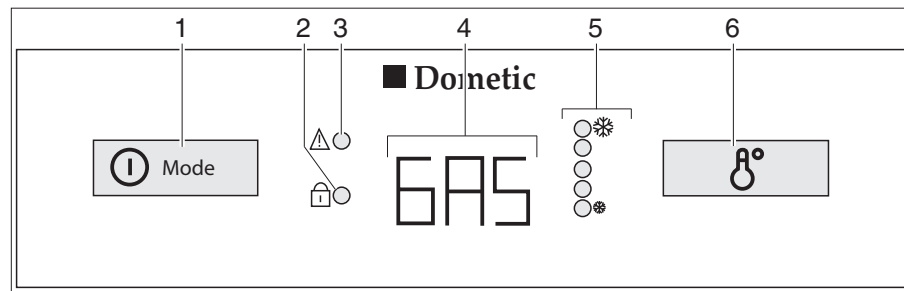

Fig. 320 Operating controls for the refrigerator (Dometic 8 series with AES)
In the case of a fault, the LED display fault will flash "⚠" (Fig. 320,3).
If the 240 V power supply is **not** connected and the vehicle's engine is **not running** the AES selects the gas supply. When selecting gas operation the ignition fuse is opened automatically so gas can get into the burner. At the same time the electronic ignition is activated. If the gas flame is extinguished, e.g. by blast of wind, the ignition is activated immediately and re-ignites the gas. In the case of a fault in gas operation the text "GAS" flashes in the operating indicator (Fig. 320,4).
When turned on the first time the refrigerator automatically selects the middle thermostat position. This position can be adjusted manually by using the switch for temperature setting (Fig. 320,6). The indicator LEDs (Fig. 320,5) show the selected thermostat position. The refrigerating temperature for the three types of energy is set with the switch. It takes a few hours till the refrigerator reaches its normal operating temperature. When changing over the operating mode the thermostat setting will be maintained. The refrigerating temperature is retained regardless of the type of power being used.
- Press the on/off switch/energy selector switch (Fig. 320,1) down for 2 seconds in order to switch on the appliance. The operating mode selected most recently is shown in the operating indicator (Fig. 320,4).
- Select the energy type with the on/off switch/energy selector switch (Fig. 320,1).
- Set the refrigerating temperature on the switch for temperature setting (Fig. 320,6). The indicator LEDs (Fig. 320,5) show the selected thermostat position.
- Press down the on/off switch/energy selector switch (Fig. 320,1) for 2 seconds. All displays close.